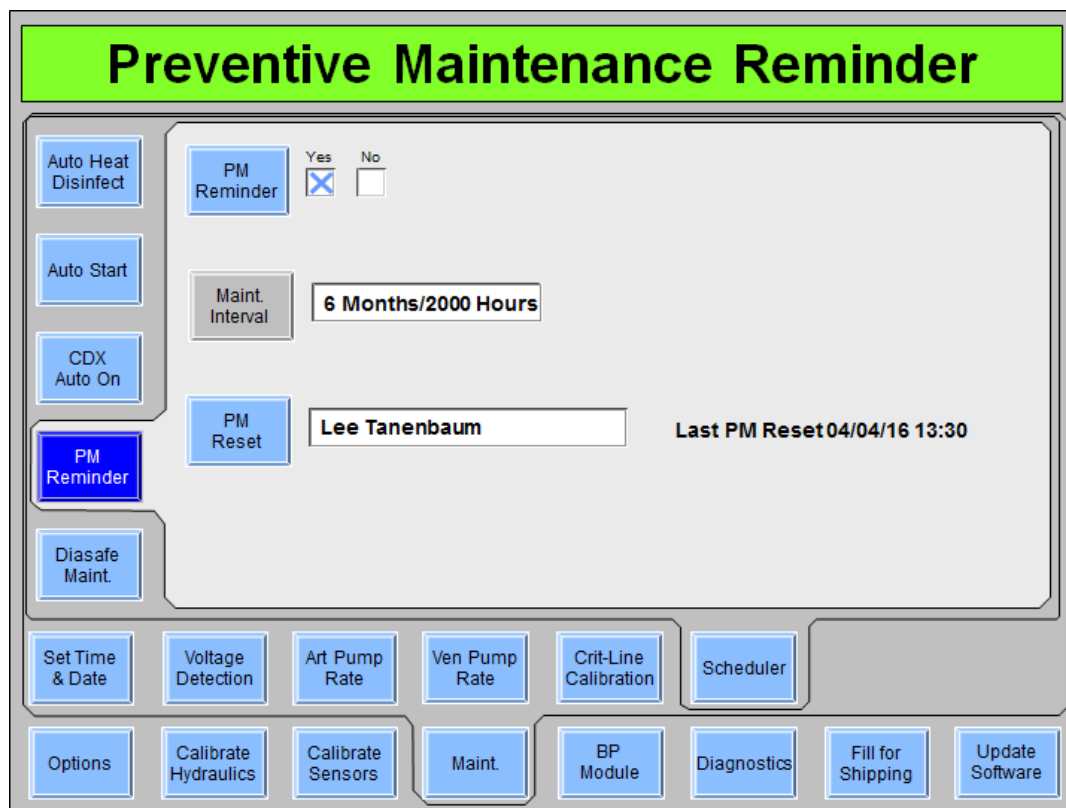

Figure 128 – Scheduler PM Reminder Screen (showing functional software version 2.81 or later)
3. Select the **PM Reset** button and, using the keyboard, enter the technician’s name setting the PM reminder then press the **CONFIRM** key. This will reset the six month countdown clock from the last PM date and save the technician’s name and date the PM interval was reset (see Figure 128). This overwrites the name and date of the technician who performed the previous PM reset.